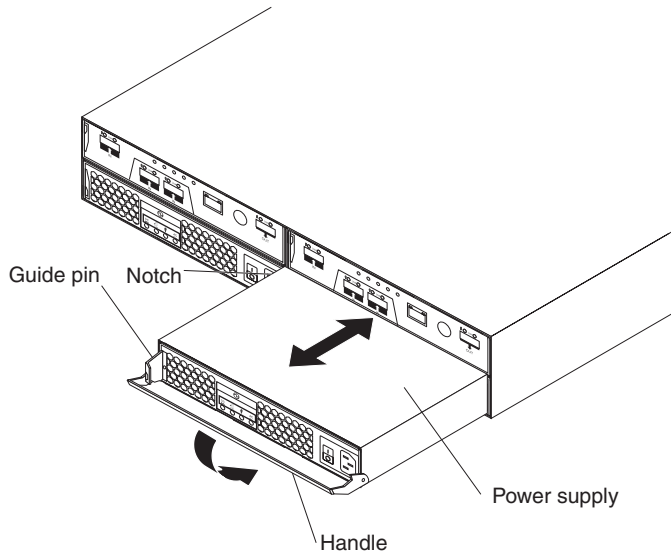

Figure 66. Replacing a power-supply unit
To replace a power-supply unit, complete the following steps. Figure 66 on page 98 illustrates removing and inserting a unit.
11. Slowly pull the handle away from the chassis to remove the power-supply unit, as shown in Figure 66.